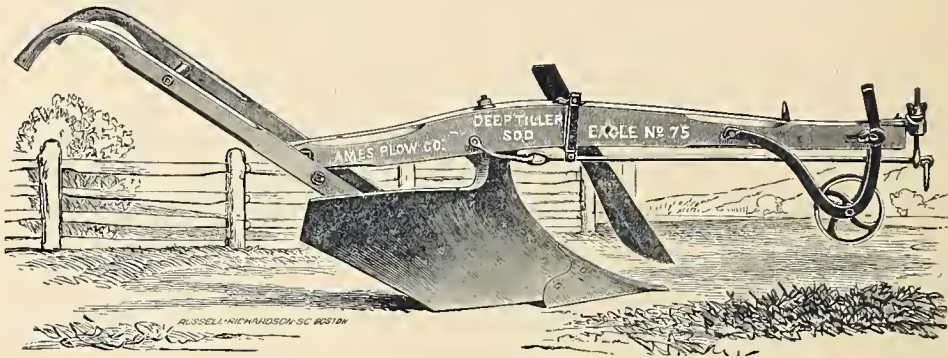

Fig. 258.—Eagle Deep-Tilling Sod Plow, No. 75.
**Trimming.**—These plows for the colonial markets are always trimmed with draft-rod, wheel, and cutter, as represented by *Fig. 258*.